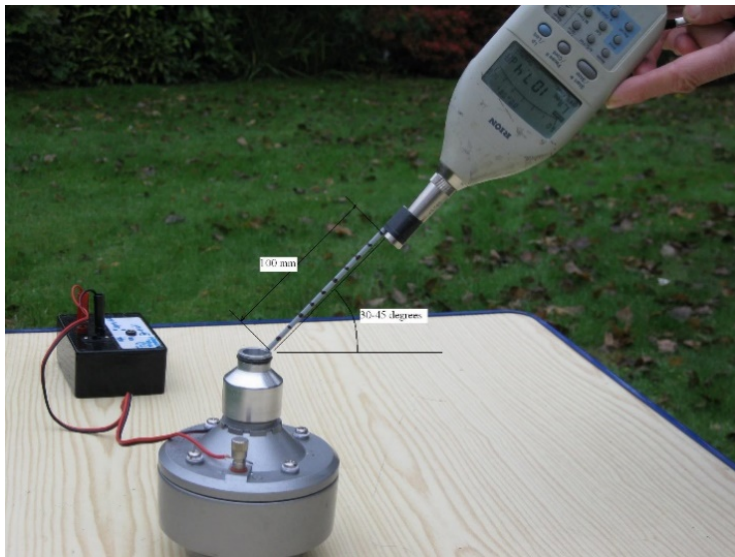

Fig 1: Reference measurement at a distance of 10 cm from the adapter opening.
1. Reference measurement of the noise source @ 10 cm, see fig.1 X dB(A)